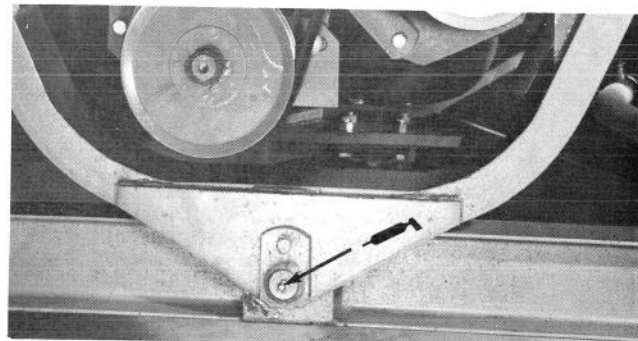
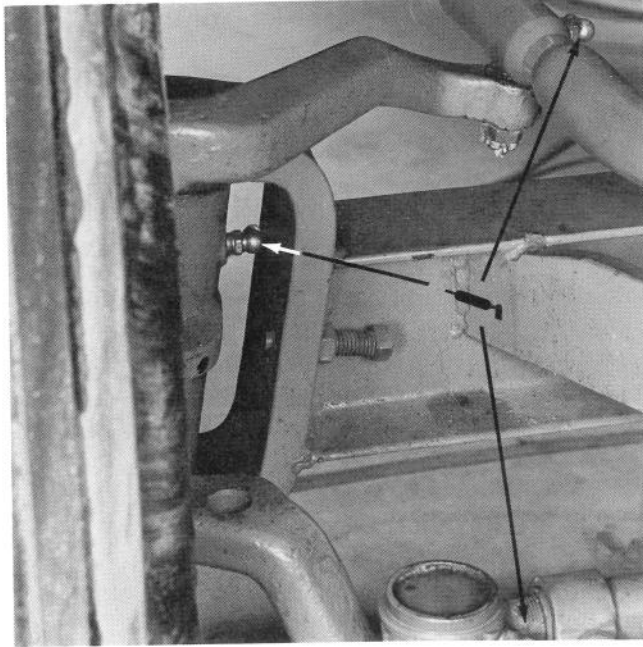
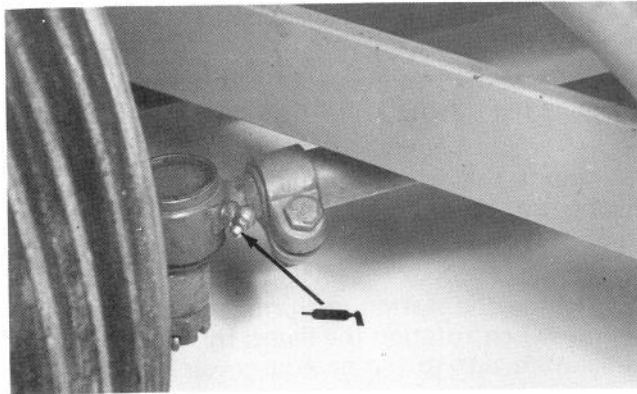
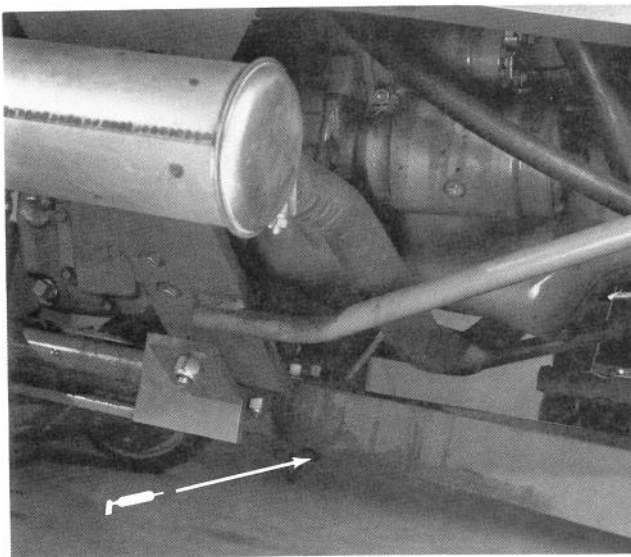

Figure 48
Figure 49
Figure 50
Figure 51
1. Use No. 2 Lithium Base Grease on the following lubricating points: Front Axle Pivot (Fig. 48); Front Axle Spindle Bearings, Left Hand and Right Hand (Fig. 49); Left and Right Hand Tie Rod Ends (Fig. 50); Front and Rear Drag Link Tube Ball Sockets (Fig. 49); Wishbone Pivot Point (Fig. 51); Clutch and Brake Pedal Bushings. (Not shown. Under floor panel on left hand side.)
Use SAE 90 EP Gear Oil in the rear axle. Check level every 150 hours; add oil if required. Every 600 hours of operation, place the tractor on a level surface, drain the oil and flush the case with kerosene or diesel fuel. Drain the axle by removing the rear carrier cover. Replace the cover gasket before reinstalling the cover. Torque the cover bolts to 30-40 ft-lb. Wash the breather in a solvent at the time of changing the oil in the rear axle. Make certain the breather cap is free to work up and down. Fig. 50 shows the location of the cover and filler